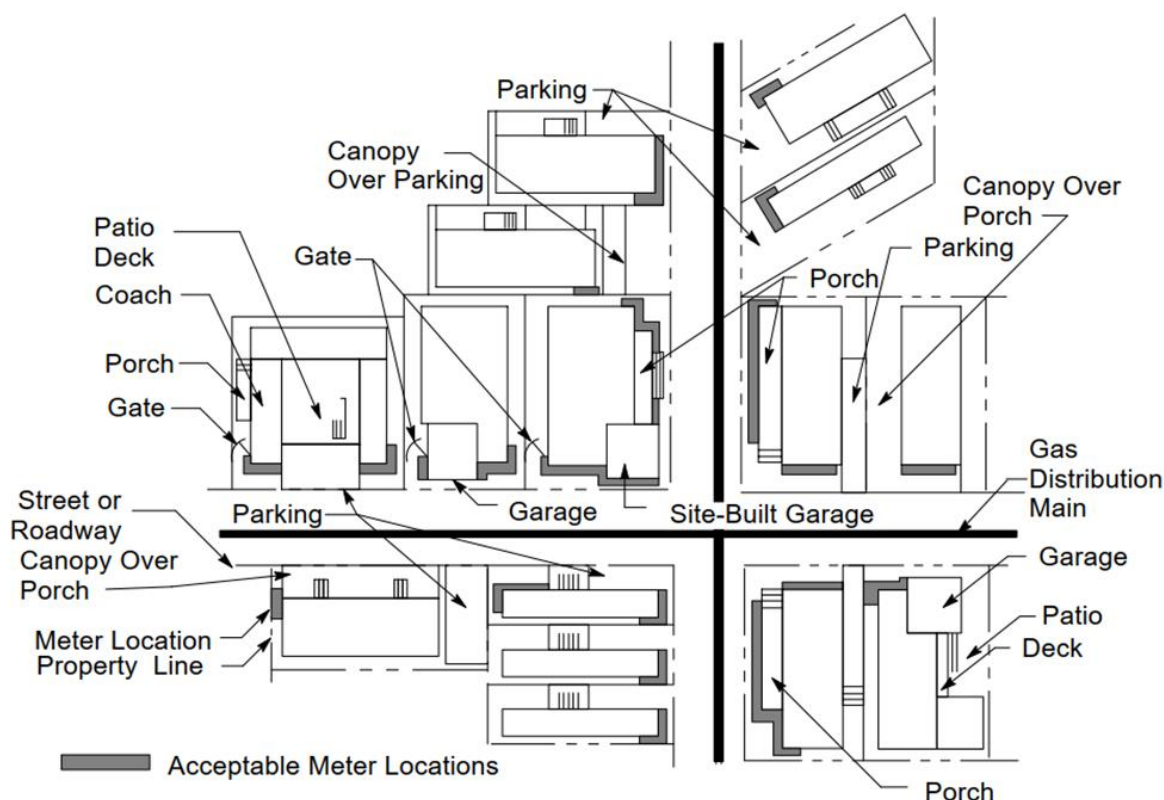

Figure 17. Acceptable Meter Locations for Mobile Home Parks
- B. Typically, meters are located on flat surfaces that are not obstructed by landscaping. Meter locations cannot be obstructed by porches and stairs leading to porches. Figure 17 represents several acceptable meter locations within a typical mobile home park.
15. Added Figure 17, “Acceptable Meter Locations for Mobile Home Parks,” from the Greenbook.